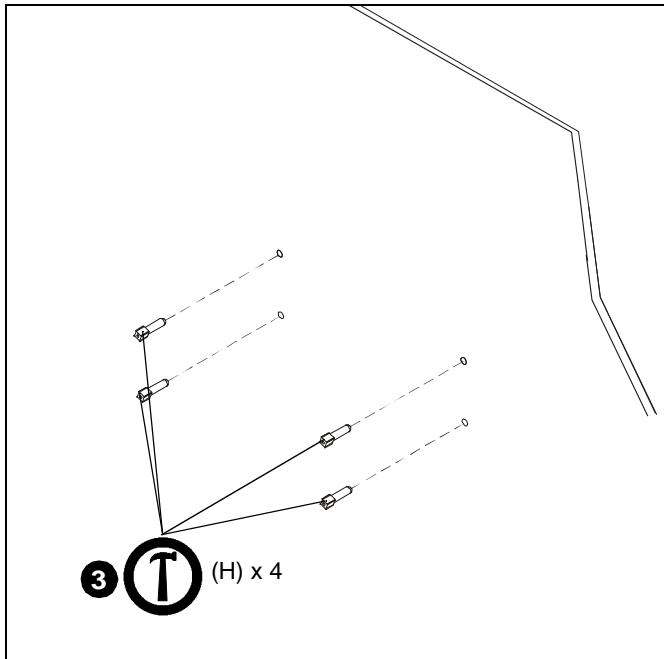

Figure 11
- Use a hammer to install concrete anchors (H) into wall at marked locations. (See Figure 11)